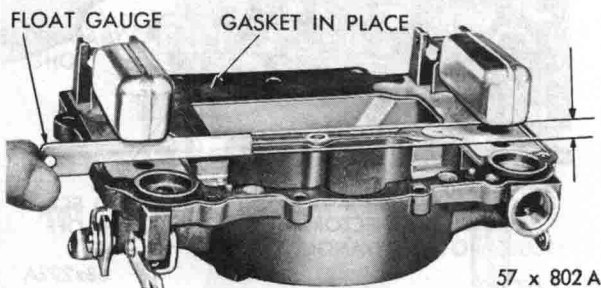

Fig. 32—Checking Float Height
(1) With the air horn inverted, the air horn gasket in place and the float needle seated, slide float gauge (refer to specifications) between the top of the float (at outer end) and the air horn gasket, as shown in Figure 32. Float should just touch gauge.
(2) Check the other float in the same manner. If an adjustment is necessary, bend the float arm using Tool T109-22, until correct clearance has been obtained. After bending arm, recheck the float alignment.